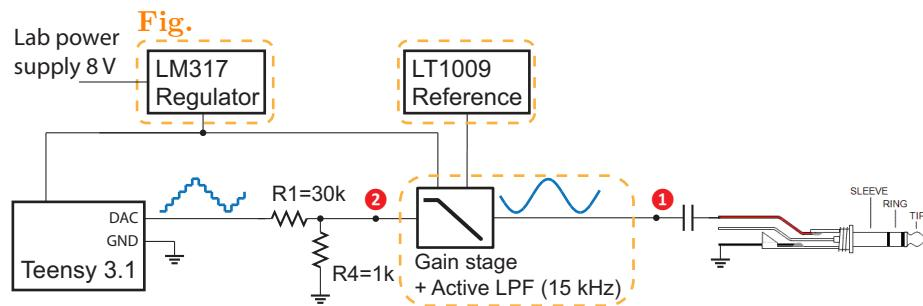

Figure 17: Acquiring signal through computer sound card.
1. Set up the system according to Fig. 17.
7. Now use the audio cable to acquire the signal after the gain stage (position 2 in Fig. 17). Record the data and compare it with that from the last step. Explain the difference, if there is any.